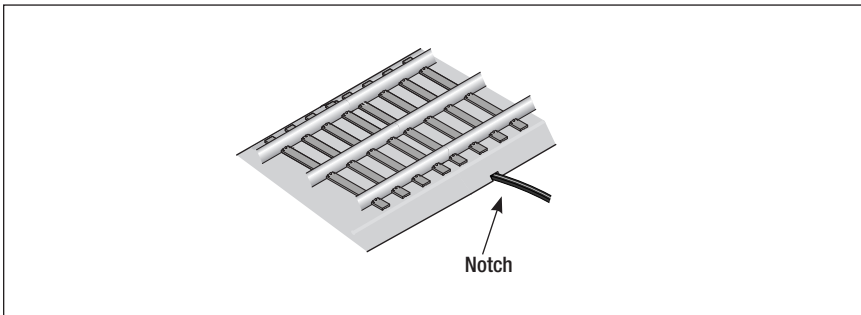

Figure 2. Positioning the wires
4. As illustrated in Figure 2, feed the Operating Track controller cable through the notch in the roadbed.